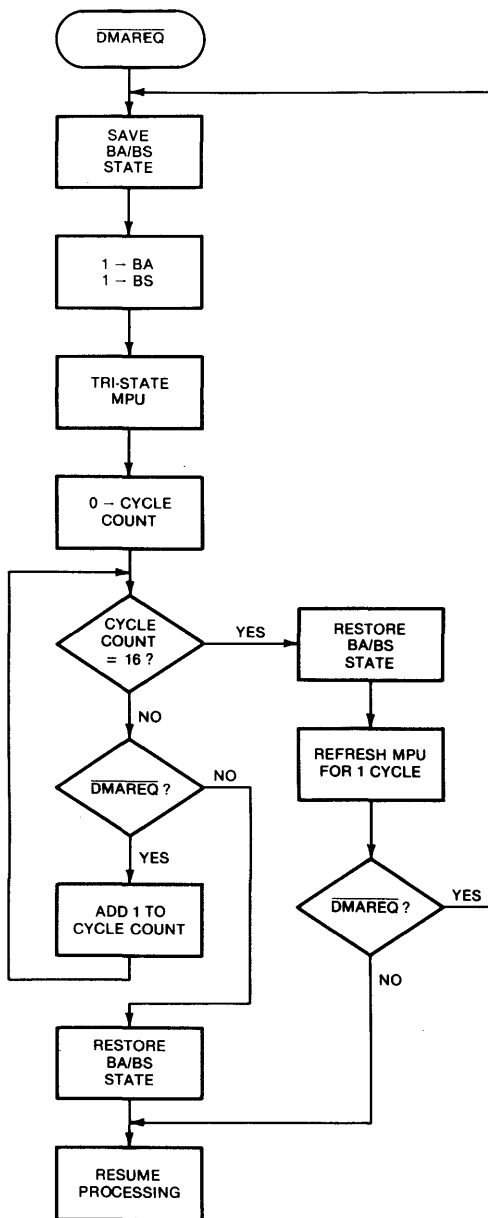

Fig. 6-7. DMAREQ sequence of events.
With the 6809, DMA can be performed by one of three methods. They are: *halt mode*, *cycle stealing*, and *bus multiplexing*. With halt-mode DMA the DMAC pulls the 6809 $\overline{\text{HALT}}$ pin low and takes control of the address and data buses. The 6809 remains halted until the data transfer is completed. The bus timing signals (E_{out} and Q_{out}) will continue to provide timing for the data transfer. *Cycle-stealing* DMA is accomplished when the DMAC pulls the $\overline{\text{DMAREQ}}$ line (pin 33) low. When this happens the 6809 will stop instruction execution at the end of the current cycle and acknowledge the DMA request by setting both the BA and BS bus status lines. The 6809 address, data, and R/\overline{W} lines will then be placed in the high-impedance state and the DMAC can then take control of the bus structure. The DMAC will have up to fifteen MPU cycles for data transfer before the 6809 will automatically *steal* the bus structure for one MPU cycle to refresh the internal MPU registers. When this happens the BA line will be cleared to signal the DMAC to get off the bus structure. After one cycle, control will be transferred back to the DMAC, provided that the $\overline{\text{DMAREQ}}$ line (pin 33) is still held low. This process will be repeated until $\overline{\text{DMAREQ}}$ is returned to a high (logic 1) level. The $\overline{\text{DMAREQ}}$ sequence of events is summarized in Fig. 6-7. The third method of DMA, bus multiplexing, provides that DMA peripheral devices be gated onto the bus struc-
17. The \overline{DMAREQ} sequence of events (Fig. 6-7) will be executed.